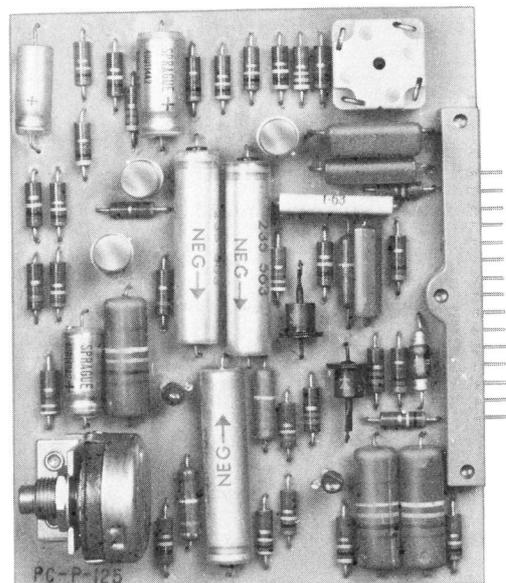

Fig. 9—KS-16765, List 6 Amplifier
2.14 The KS-16765, List 6 amplifier (Fig. 9) is of printed wiring board construction and provides amplification for both recording and reproducing, an automatic volume control feature for minimizing variation in level of recorded speech, and a high frequency oscillator to provide the bias current required for magnetic recording. List 6 amplifier supersedes List 4 amplifier and may be used as a replacement in all Lists 1 and 2 announcement sets.
| Amplifier | KS-16765, List 6 | Printed Wiring Card for Recording and Reproducing | Fig. 9 |